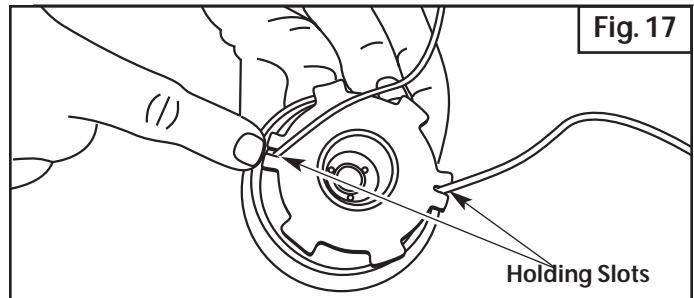

Fig. 17
12. Insert the ends of the line into the two holding slots (Fig. 17).